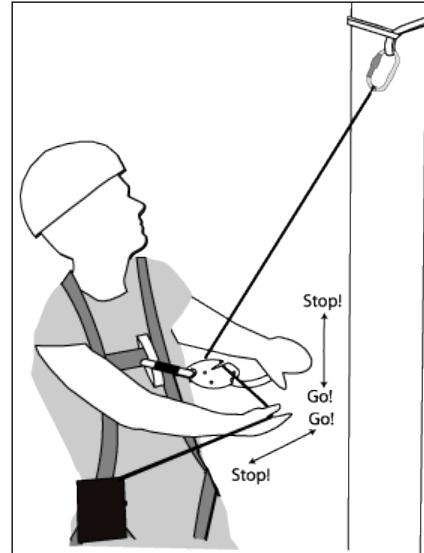

Figure 4 Controlling the descent
- 6) Start the descent using the Smartline (fig 4).
- 7) The speed of the descent is adjusted with one hand on the handle and the other hand holding the line below the device. Start with the line at an angle out of the slot as shown in figure 3 and figure 4. When moving the handle down, the speed increases. When moving the handle upwards or releasing the handle, the device will stop. Additional friction is given by moving the line into the narrow part of the slot. It is important to always keep one hand on the line below the descender to control the descent.